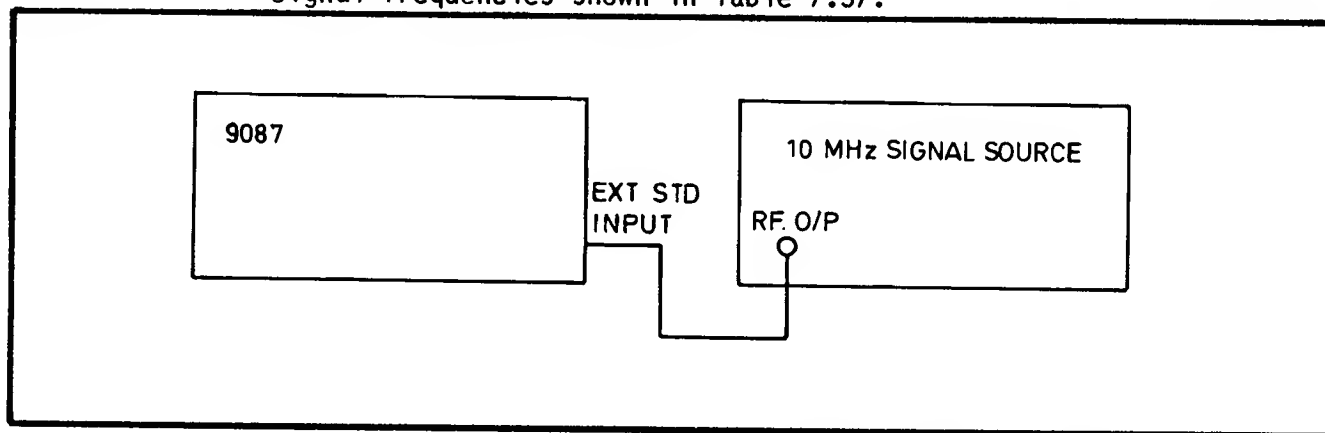

Fig. 7.27 Connections for External Frequency Standard PVP
- (a) Connect the 10 MHz signal to the external standard input of the 9087, as shown in Fig. 7.27. Select EXT on the 9087 internal/external frequency standard selector.